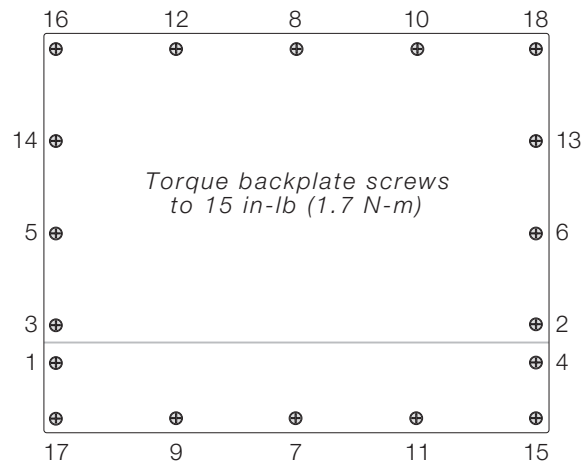

Figure 2-2. 920i Enclosure Backplate
7. For indicator models that include a backplate, position the backplate over the enclosure and reinstall the backplate screws. For the 920i desktop and universal models, use the torque pattern shown in Figure 2-2 to prevent distorting the backplate gasket. Torque screws to 15 in-lb (1.7 N-m).